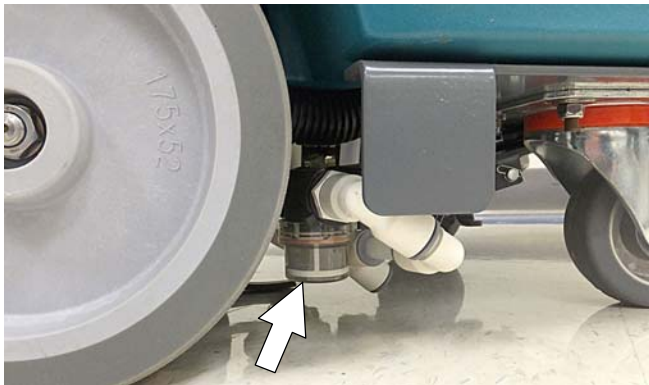

FIG. 143
2. Empty the water from the solution tank filter located under machine. Replace filter. (See Figure 143).